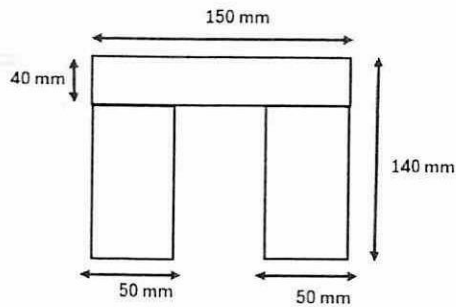

Figure Q3.1
- (b) A cross sectional area of the beam is shown in **Figure Q3.1**. If the n-section is simply supported over a span of 6m. It carries a U.D.L (Uniform Distributed Load) of 3 kN/m run including its own weight over its entire span. Find the maximum tensile and compressive stress occurring in the beam section.